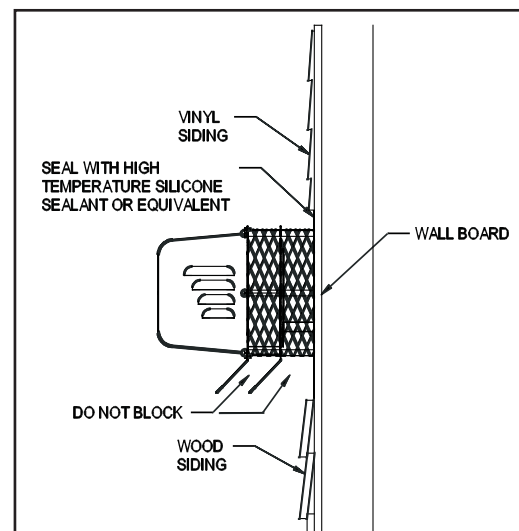
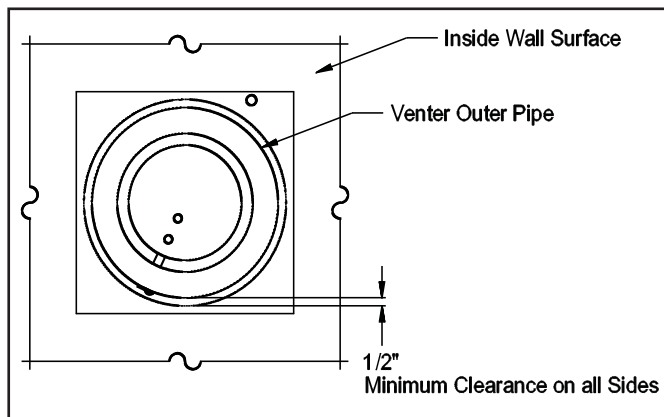

Figure 2
Figure 3
3. After determining the location of the venting system termination point (See Diagram A), cut a square hole through the wall at least 1" larger than the outer pipe diameter of the power venter. Mount the power venter through the wall, keeping the outer pipe centered in the hole. (See Figure 3) Fasten the power venter to the outside wall with appropriate fasteners, sealing the edges of the power venter base plate to the wall with a high temperature silicone sealant. DO NOT enclose the spaced plates on the power venter body. This will result in reduced cooling of the power venter body. Wood or vinyl siding should be cut so that the unit mounts directly on the wall board to provide a stable support. If the siding is greater than ½" thick use a spacer plate or board behind the power venter mounting plate. (See Figure 2)
NOTE: If mounting the power venter through a combustible wall material and the flue gas temperature is above 400°F at the power venter inlet, line the square hole with a piece of corrosion resistant sheet metal or non-combustible material. The liner piece should be the same width as the wall section. (See Figure 3) The power venter has a maximum flue gas temperature of 550°F at the venter inlet.